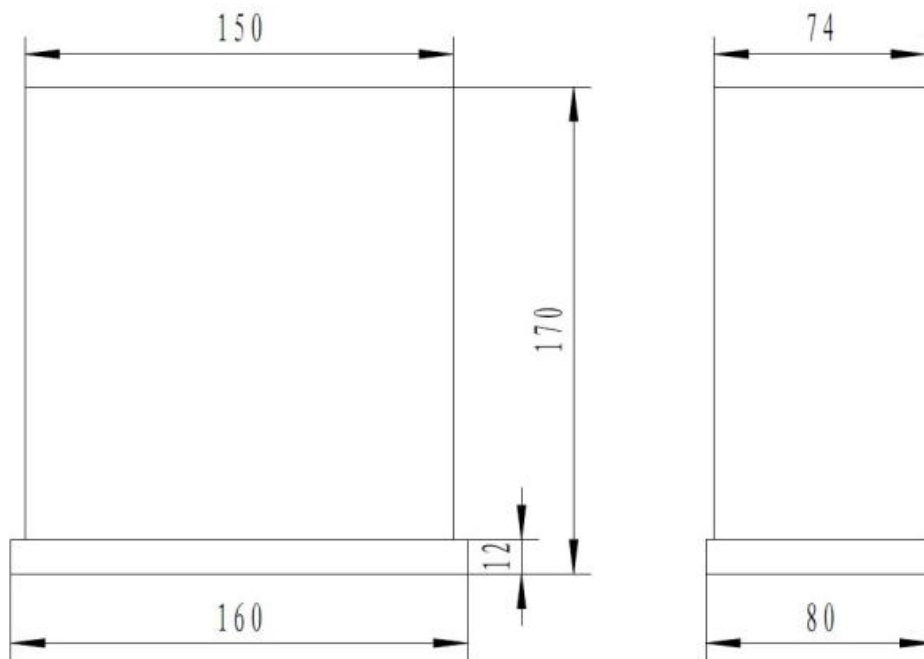

Figure 3 Outline dimensions
4.1 Outline dimensions as Figure 3